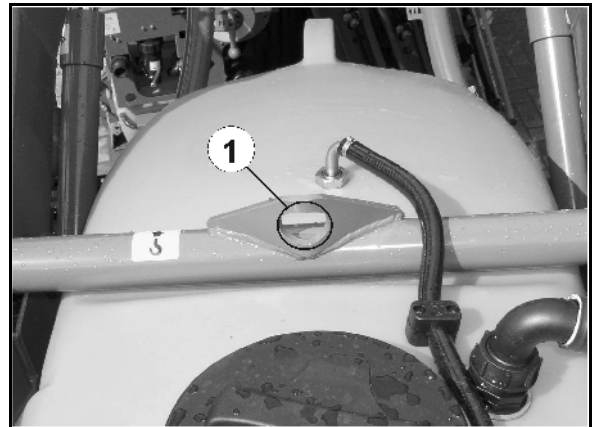

Fig. 5
There are 3 indicated points on the machine (Fig. 5/1, Fig. 6/1, Fig. 7/1).
- 3000 kg rear (Fig. 5)